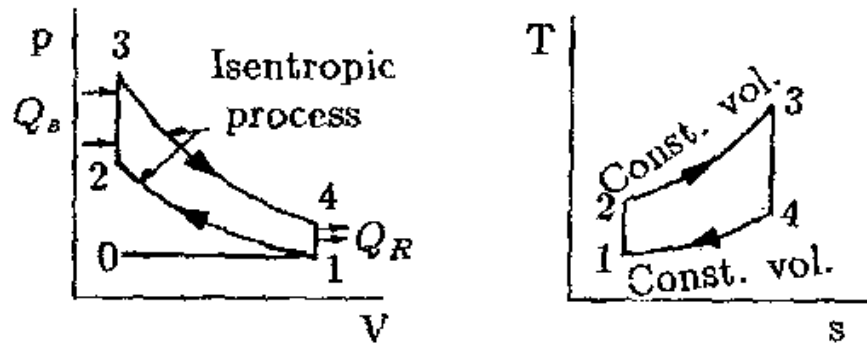

Fig. 3.5 Otto Cycle
- This cycle is a constant-volume heat addition cycle (as shown in Fig. 3.5), which forms the basic for the working of today's spark-ignition engines.